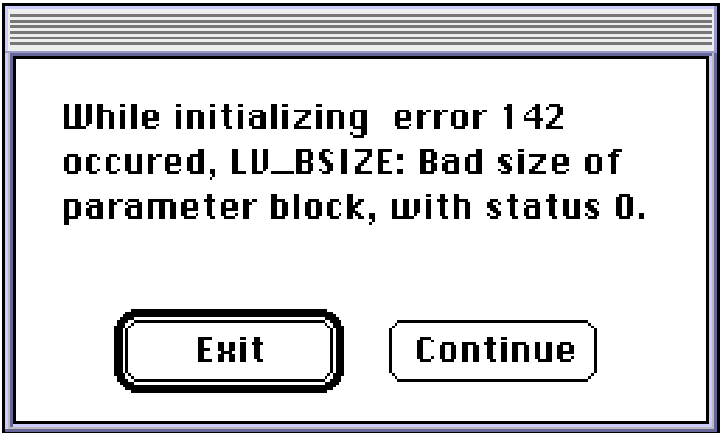

Figure 4. The Dialog error Message.
- 1) Interactive. A dialog window is opened, giving the user the option to exit the application or continue. The program will not continue until a button is clicked. See figure 4.